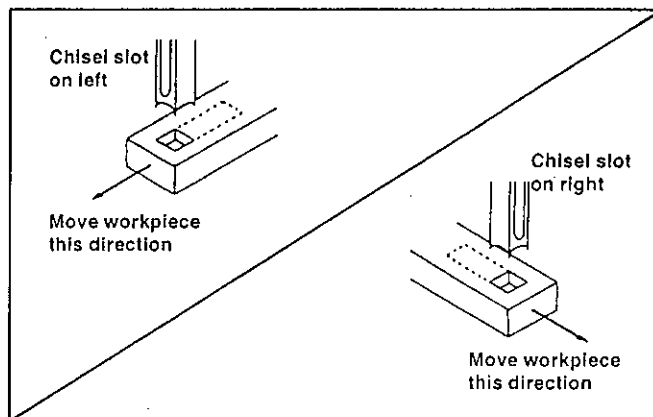

Fig.5
7. Complete the first mortising cut; carry the workpiece towards the proper direction of the chisel slot to permit chips to unload clearly. Move the workpiece in order for the chisel slot to release chips into the already cut part of the mortise (Fig.5).